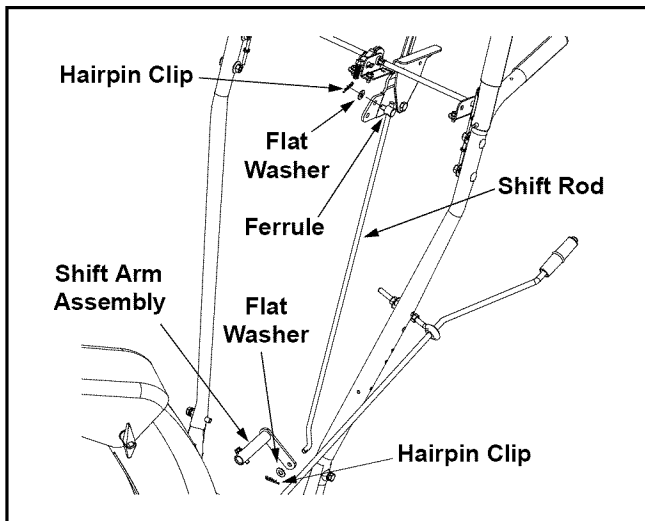

Figure 12
- Place the shift lever (on the handle panel) in the sixth (6) speed position (all the way forward).
- Place the bent end of the shift rod into the hole in the shift arm assembly. Secure with flat washer and hairpin clip. See Figure 12.